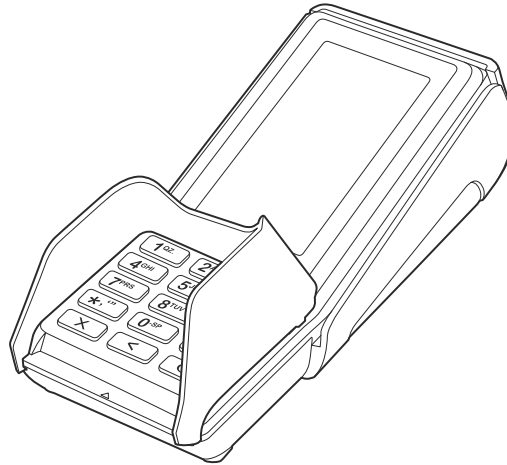

Figure 19 Installed Privacy Shield
- 3 Figure 19 shows an example of a terminal with a privacy shield.